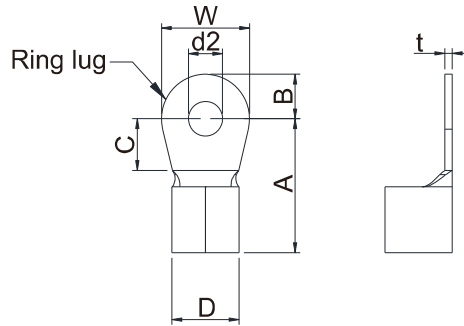
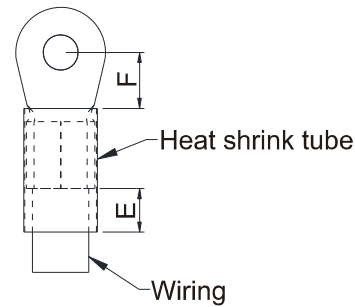

Figure 5-9
Figure 5-10
- Use the specified ring lug for main circuit terminal wiring. See figure 5-9 and figure 5-10 for ring lug specifications. For other types of wiring, use the wires that comply with the local regulations.
- After crimping the wire to the ring lug (must be UL approved), UL and CSA approved recognized component (YDPU2), install heat shrink tube rated at a minimum of 600VAC insulation over the live part. Refer to figure 5-10 below.